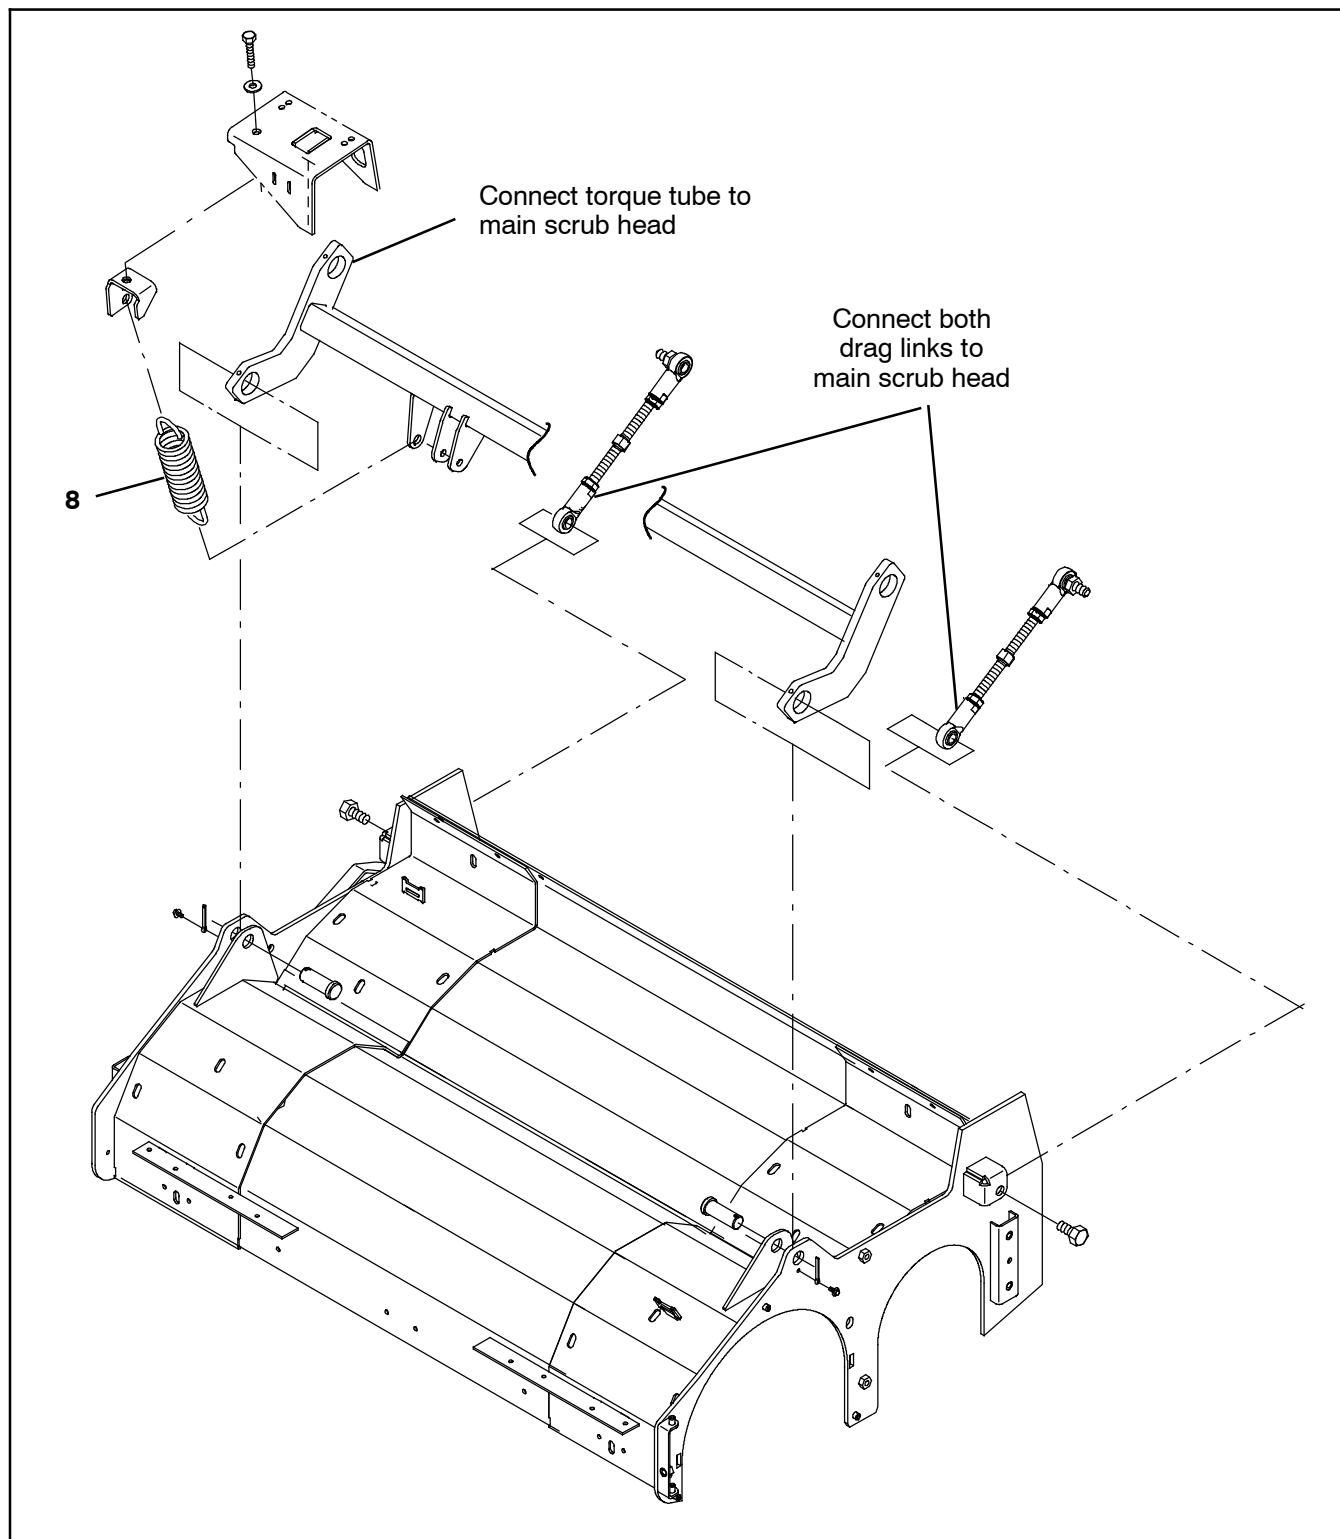

FIG. 10
(Fig. 10)
33. Install the extension spring (8) onto the torque tube and bracket. (Fig. 10)